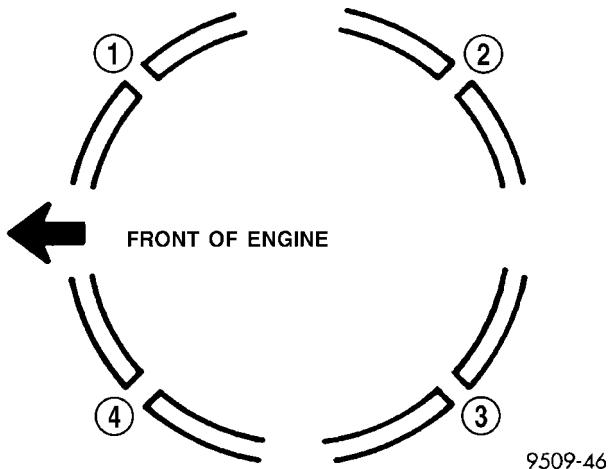

Fig. 65 Piston Ring End Gap Position
(1) Install piston rings on piston (Refer to 9 - ENGINE/ENGINE BLOCK/PISTON RINGS - INSTALLATION)
(2) Before installing pistons and connecting rod assemblies into the bore, be sure that compression ring gaps are staggered so that neither is in line with oil ring rail gap (Fig. 65).
(3) Before installing the ring compressor, make sure the oil ring expander ends are butted and the rail gaps located as shown in (Fig. 65). As viewed from top.